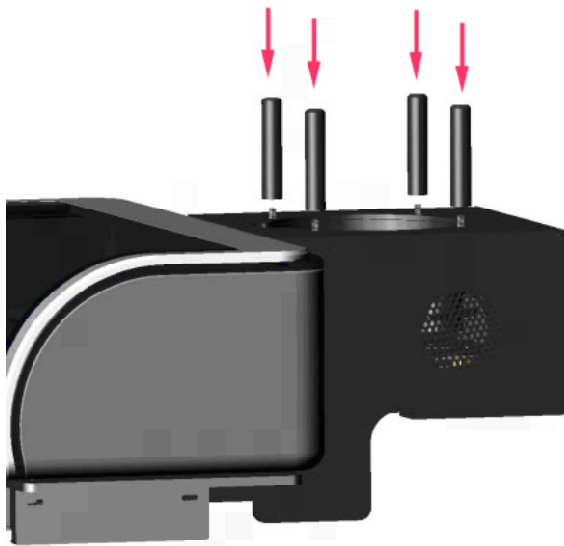

Figure 2.0 Mounting Disc Input Spindles
1. Mount the disc input spindles by screwing them into the base of the disc input hopper (see Figure 2.0).